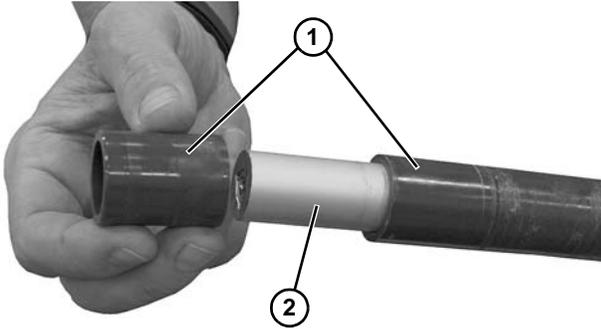

Figure 81
- Slide idler sleeves (**Figure 81, item 1**) off the end of the idler shaft (**Figure 81, item 2**). If equipped, remove second idler shaft and remove idler sleeves.